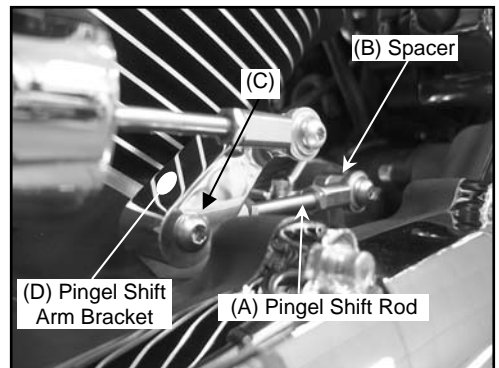

Figure 3
Remove the fastener that attaches the stock shift rod to the front stock shift lever. Remove the fastener that retains the stock shift rod to the back stock shift lever and completely remove the original shift rod. Install the supplied Pingel shift rod to the rear stock shift lever using a supplied 5/16-24 x 1¼" BHSCS with thread locker through one of the rod ends of the Pingel shift rod assembly, the 5/8" O.D. x 5/16 I.D. x .357" long spacer, (B) in figure 3, and thread into the rear stock shift arm and tighten. Attach the other end of the Pingel shift rod to the stock front shift lever by installing a supplied 5/16-24 x 1¼" BHSCS, (C) figure 3, with thread locker applied, through the Pingel shift arm bracket, (D) figure 3, the rod end of the Pingel shift rod and into the front stock shift arm making sure the arm is set into the pocket on the back of the Pingel shift arm bracket and tighten. Tighten the 8-32 x 3/16" socket set screw located on the right side of the Pingel shift arm bracket after applying thread locker.